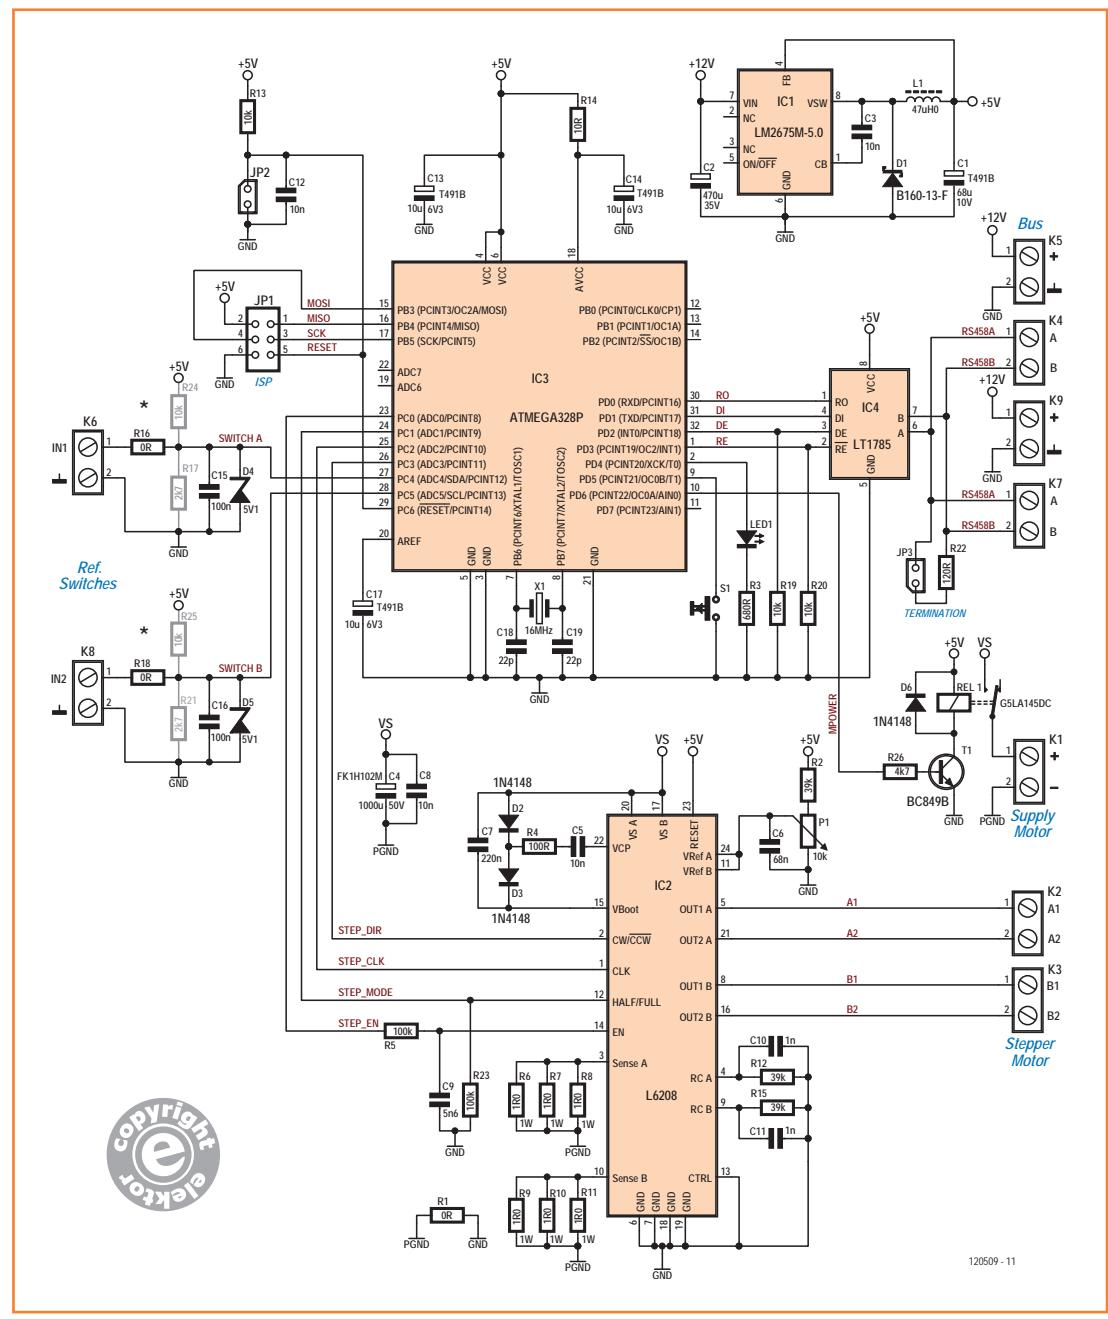

Figure 3.
the motor windings, and an over-current detection circuit. It is therefore an easy device to use: we simply need to provide four digital control signals, for rotation direction (CW/CCW), step (CLK), operating mode (HALF/FULL) and strobe (EN). Because of the device's high level of integration the number of external components is kept to a minimum, as can be seen from the circuit diagram in **Figure 3**. The internal current regulator measures the voltage across resistors R6 to R11 on the two sense inputs to determine the motor winding current; the reference value for the regulator is obtained from the V_{ref} inputs, which in turn comes from trimmer potentiometer P1. With the values given in the circuit diagram the winding current is 100 mA when the reference voltage is set to 33.3 mV. The networks comprising R12 and C10, and R15 and C11, determine the off-time of the power MOSFETs in the bridge driver [3]. The L6208 uses a charge pump to generate the gate voltages needed, which requires external components D2, D3, R4, C5 and C7. R5 and C9 condition the voltage at the enable input.